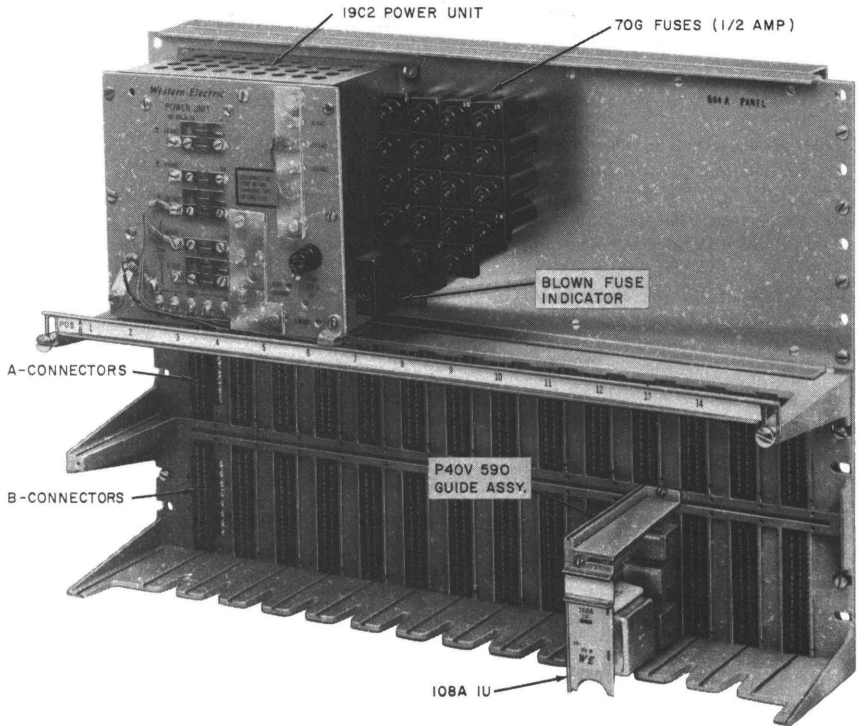

Fig. 1—108A Interconnecting Unit Mounted in 604A2 Panel
- Unit, Interconnecting, 108A (Fig. 1, 2, and 3, one per CO line)
- Panel, 604A2 (19C2 power unit and fuse panel, Fig. 1; will mount up to eighteen 108A IUs)
108A Interconnecting Unit (Fig. 1 or 2)
3.14 Refer to Fig. 1 for installation sequence of 108A IU in the 604-type panel. The suggested sequence is established to activate circuits in the order they appear at the customer interface. On current production of the 604B and the 604C panels, the **trunk** number is shown on the designation strip. On earlier production of the 604B, the **position** number is shown.